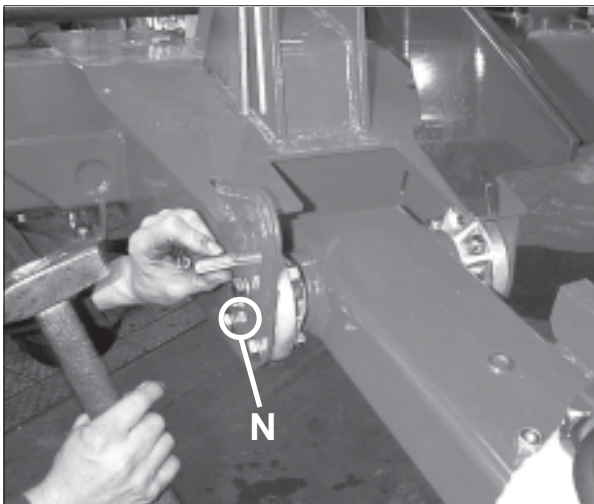

Fig. 3-7
Attach the aluminium bearing housings (A) from bag (G) to the bolt of the lifting arm (screw surface outwards) and insert the lifting arm into the cross bar on the frame (observe the marking "Left"). Then align the holes. Insert the M12x45 screws with washers and position the M12 nuts. Then drive in 2 roll pins 13x36 at either side and secure using M8 bolts. Tighten the bolts and install grease nipple (N) (fig. 3-7).